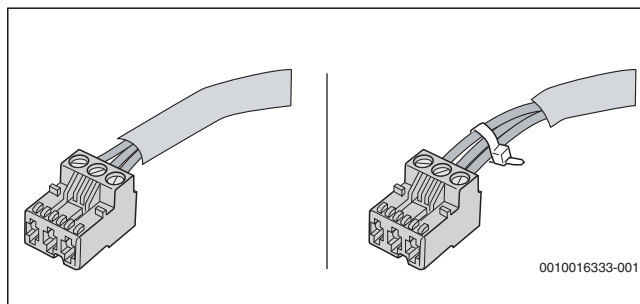

Fig. 9 Secure the wires of all connected cables
- Secure the wires of all connected cables together. This can only be carried out by stripping back a short section of cable sheath or by using cable ties close to the terminals (→ Fig. 9).